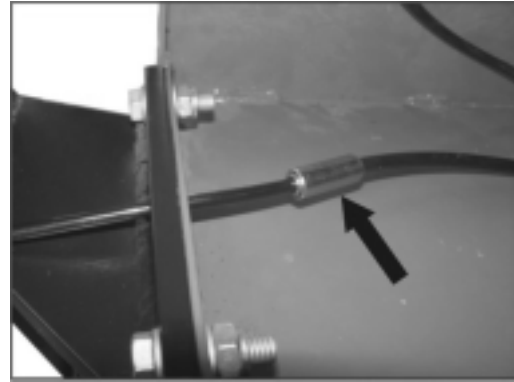
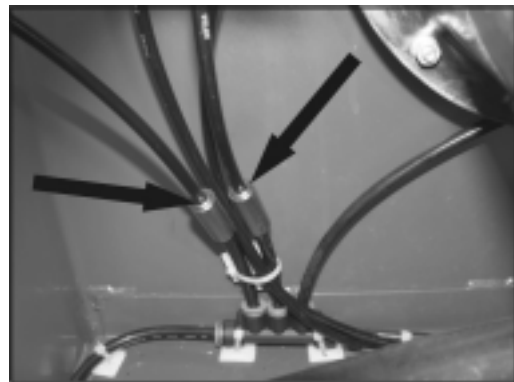

Fig.20
Fig.21
- Find PU hoses out from the supplement arm unit and insert it into the reducer union. (fig.20). For the tyre changer with tilting post, get the PU hose out from the tilting post into another reducer union (fig.21).